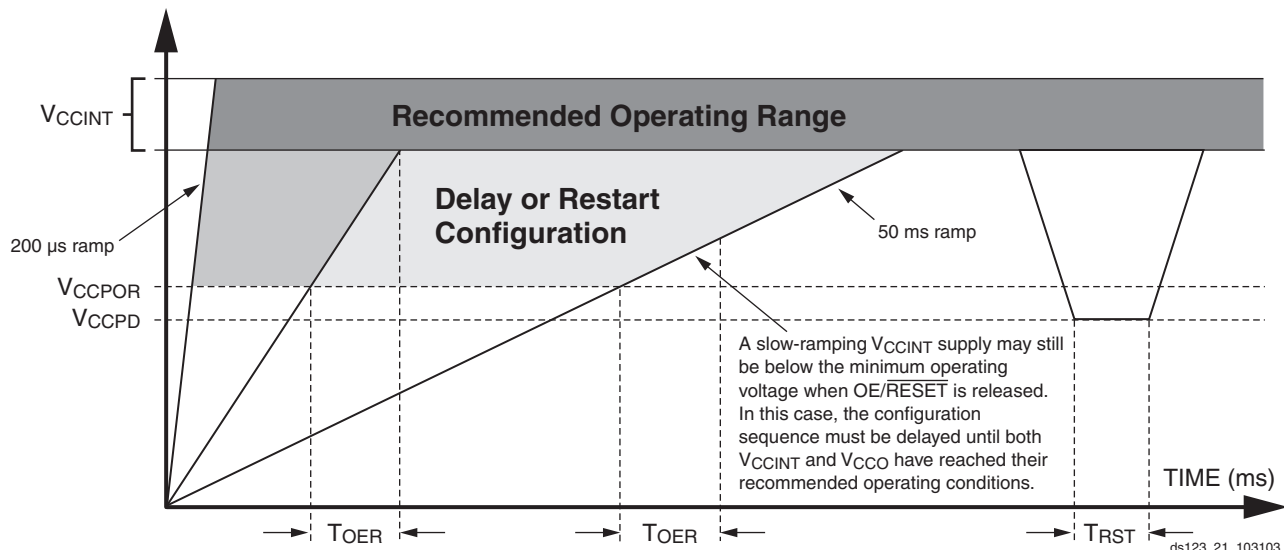

Figure 14: Platform Flash PROM Power-Up Requirements
below the power-down threshold ( $V_{CCPD}$ ), the PROM resets and  $\overline{OE}/\overline{RESET}$  is again held Low until the after the POR threshold is reached.  $\overline{OE}/\overline{RESET}$  polarity is not programmable. These power-up requirements are shown graphically in Figure 14.
- At power up, the device requires the  $V_{CCINT}$  power supply to monotonically rise to the nominal operating voltage within the specified  $T_{VCC}$  rise time. If the power supply cannot meet this requirement, then the device might not perform power-on-reset properly. See Figure 14, page 24.